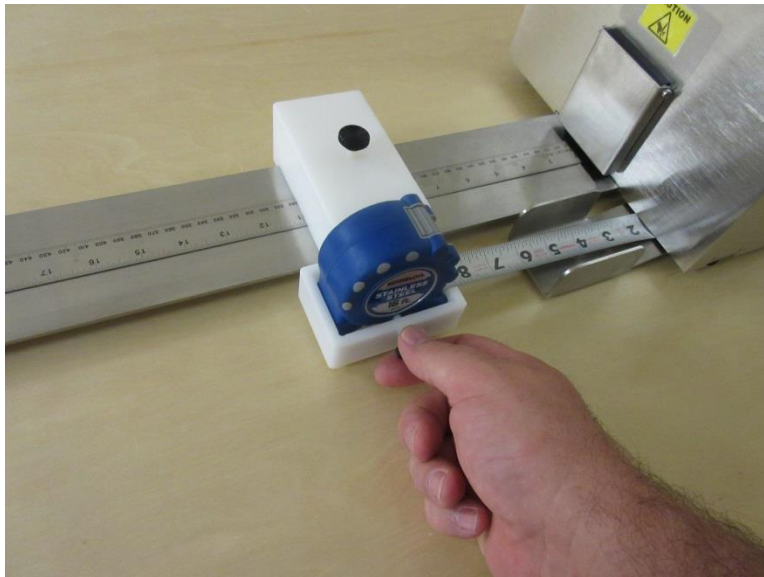

Figure 3.2.2
- Slide the “**WHITE**” slide block onto the scale. You can now remove the tape measure from the holster and attach it to the “**WHITE**” slide block using the thumbscrew. *Figure 3.2.2*